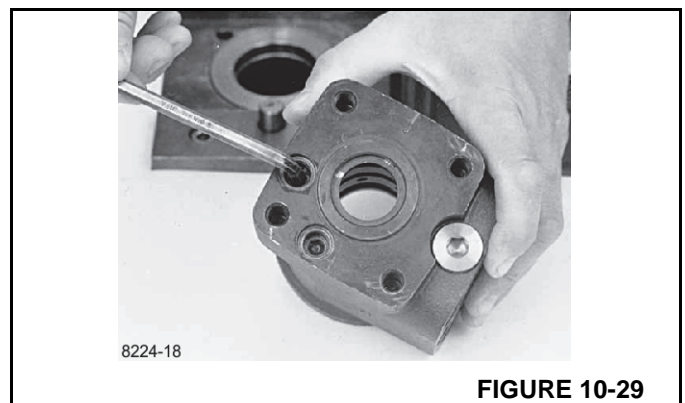

FIGURE 10-29
18. Unscrew the setting screws using a 6 mm Allen wrench (Figure 10-29).